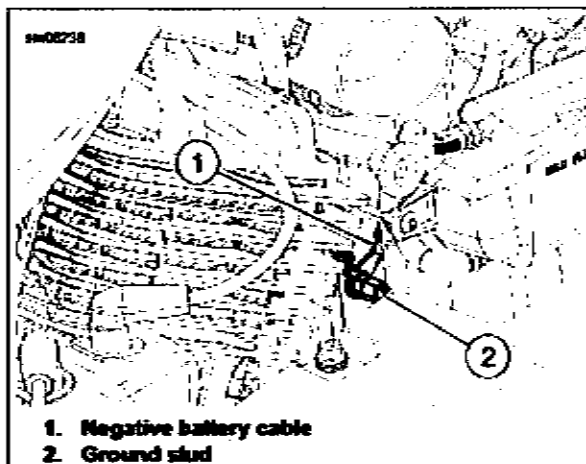

Figure 8-3. Battery Ground Cable
3. See Figure 8-3. Disconnect negative battery cable (1) from ground stud (2).
1. See Figure 8-3. Connect negative battery cable (1) to ground stud (2). Tighten to **15-20 ft-lb (20-27 Nm)**.